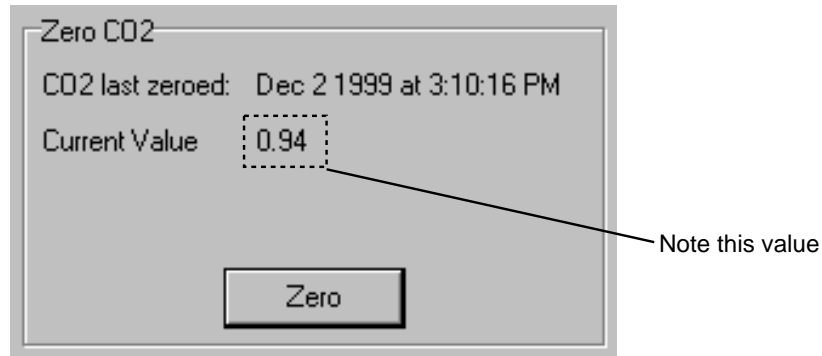

Figure 4-2. Note value of Z_{CO_2} , shown as Current Value.
5. Observe the CO₂ concentration and wait for it to stabilize (typically 1 minute). Also, note the present value of Z_{CO} (Figure 4-2).
6. When the reading has stabilized, click **Zero** to set the CO_2 zero. After a brief delay, the displayed CO_2 value should be fluctuating around zero. Check the resultant value of Z_{CO_2} shown on the *Zero CO_2* page (Figure 4-2). It should be near 1 (typically between 0.85 and 1.1). This value will steadily increase as the internal chemicals lose effectiveness.